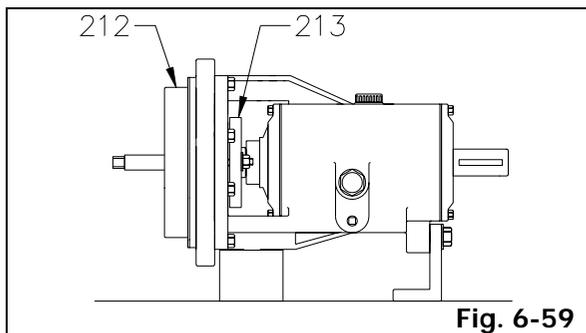

Fig. 6-59
4. Allow stuffing box cover studs go through two (2) bolt holes on gland (213), and move gland (213) into stuffing box cover (212). Install two (2) gland nuts after the gland (213) and tighten the nuts evenly until snug, then back off the nuts and tighten them again with fingers only (Fig. 6-59).